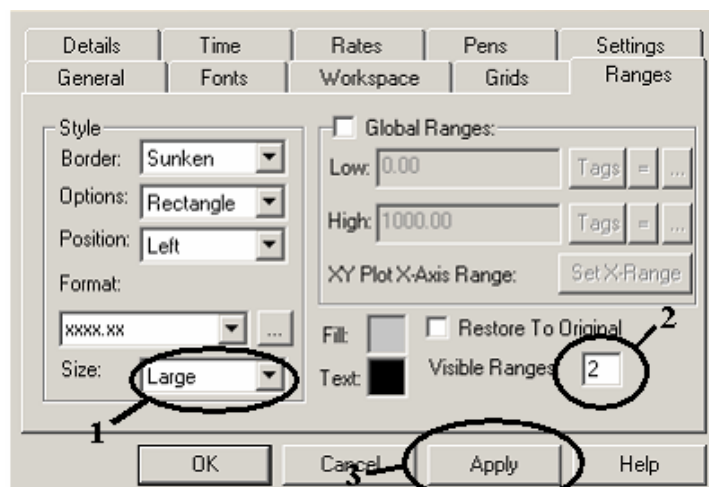

Figure 6.11. TrendWorX Viewer ActiveX Properties: Ranges Tab
While in **Configuration** mode, double-click on the TrendWorX Viewer ActiveX. The **Trend Viewer ActiveX Properties** dialog box appears, as shown in **Figure 6.11**. Each of the various tabs contains a set of parameters for controlling the trend's operation.
1. Click on the **Ranges** tab. Change the **Size** field to **Large**. Change the **Visible Ranges** field to **2**, and then click **Apply**, as shown in Figure 6.11. Both ranges are now shown in the Trend window.